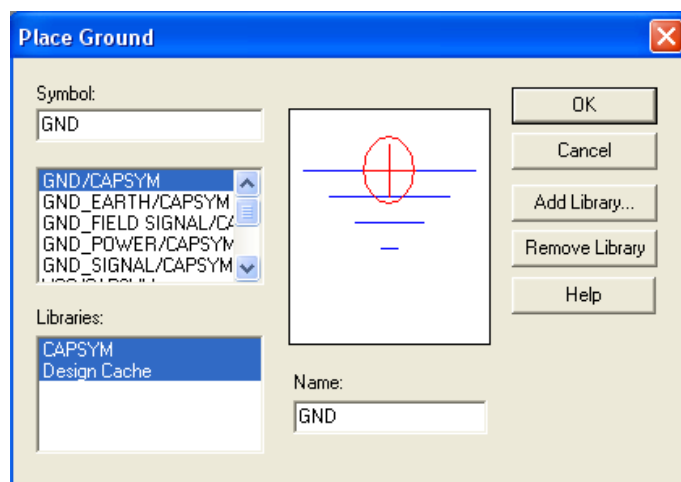

Figure 4.3: Placing a Ground Symbol in Capture
- Click → **OK** (*See Figure 4.3*)